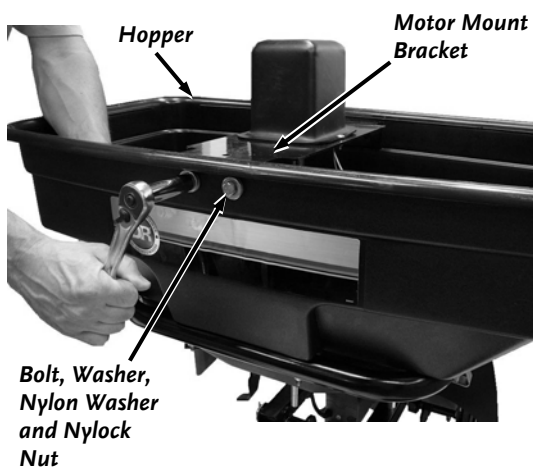

Figure 10
11. Line up the Motor Mount Bracket with holes in Hopper. Secure Motor Mount Bracket to Hopper with two 5/16-18 x 1" Hex Bolts, two 5/16" Washers, two Nylon Washers (against outside of Hopper) and two 5/16" Nylock Nuts (1/2" Wrench) (**Figure 10**).